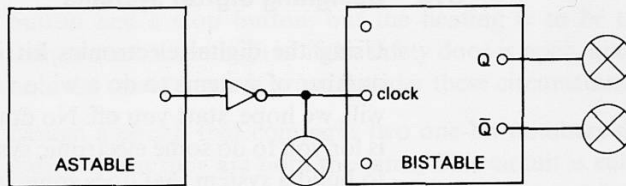

**Figure C47**
**C17a** Check that the module can be made to behave in the same way as the bistable circuit in experiment C16 by connecting each input in turn momentarily to  $V_s$  (figure C47). For what could you use this circuit?